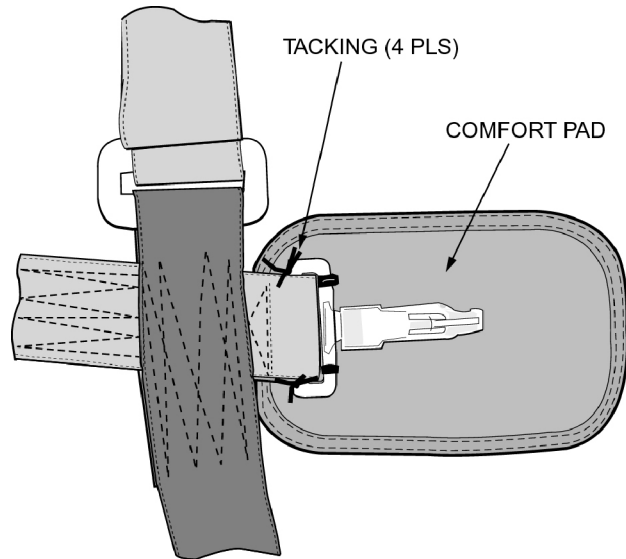

Figure 12. Comfort Pad Replacement
- a. Cut tacking securing comfort pad to snap ejector (4 places) (Figure 12).
a. Using Tape, Lacing & Tying 10-in. long and a needle. Tack replacement comfort pad to snap ejector in 4 places using one turn, doubled, tied with a surgeon's knot, followed by a square knot. Trim off excess. Repeat for remaining tacks (Figure 12).
a. Using Tape, Lacing & Tying 10-in. long and a needle. Tack replacement comfort pad to snap ejector in four places using one turn, doubled, tied with a surgeon's knot, followed by a square knot. Trim off excess. Repeat for remaining tacks (Figure 12).